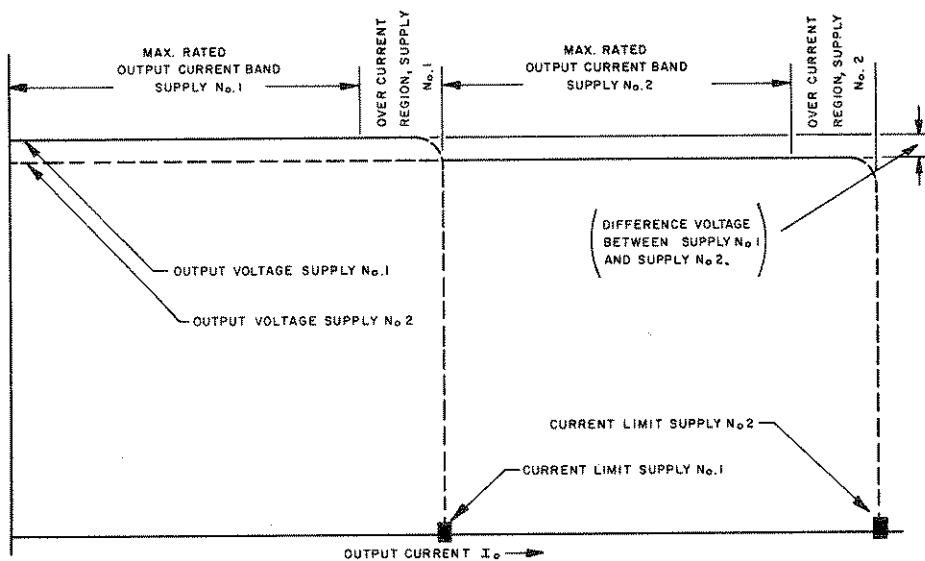
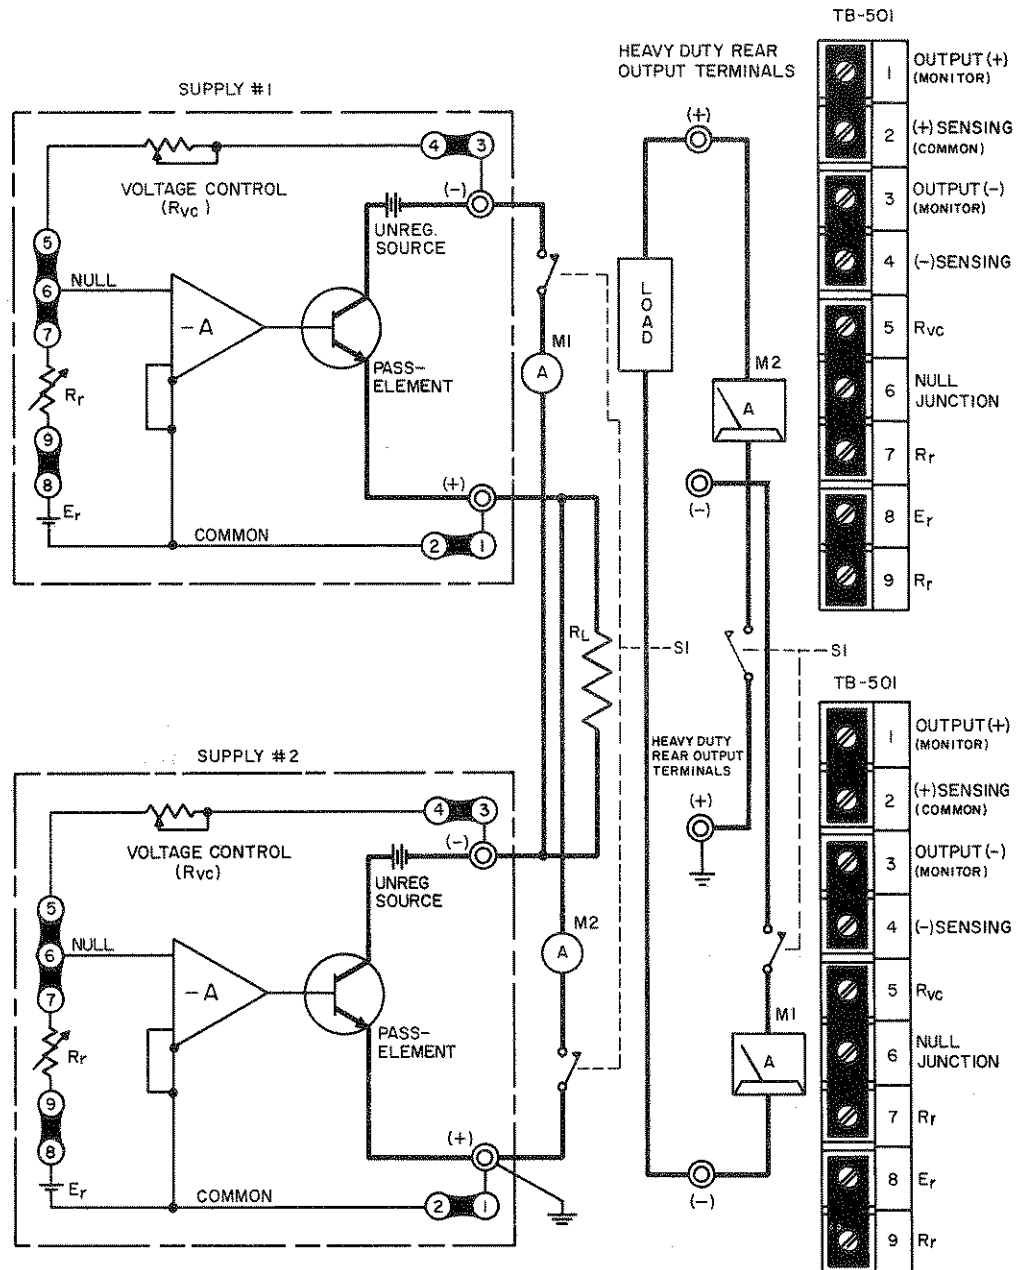
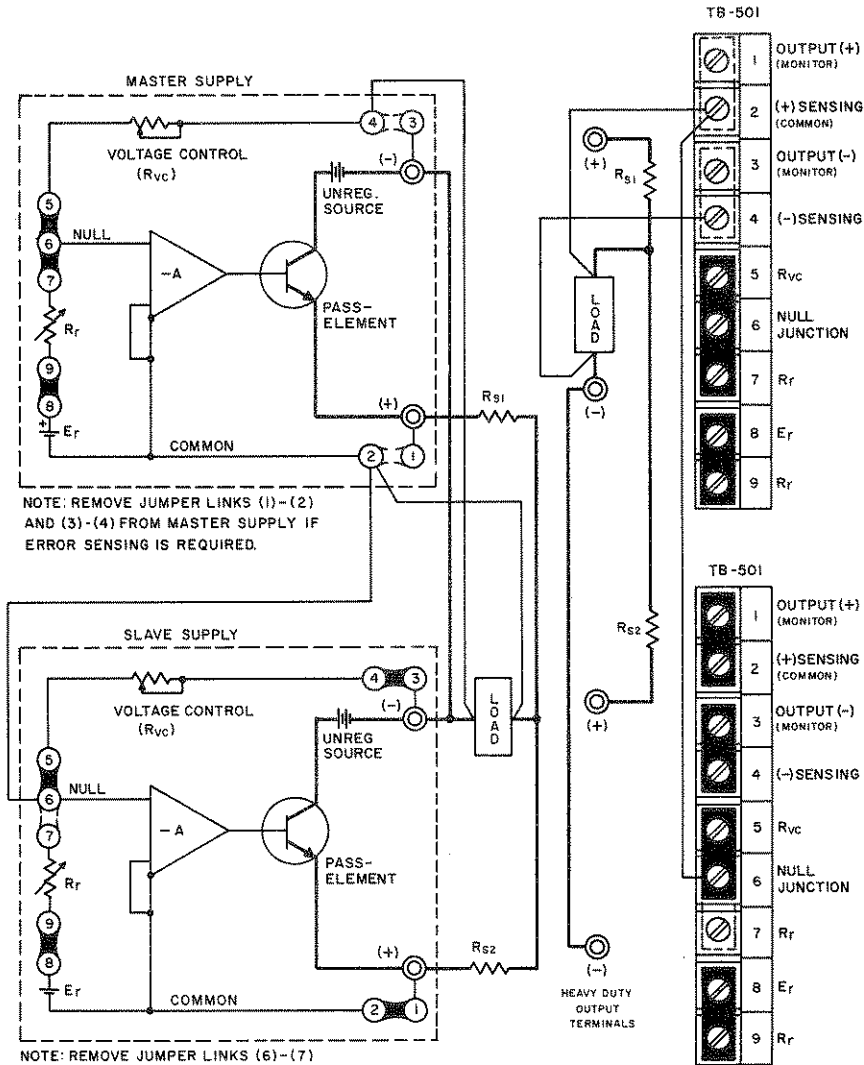

FIG. 3-12 PARALLEL OPERATION
FIG. 3-13 BASIC PARALLEL CONNECTION OF TWO KEPKO POWER SUPPLIES
FIG. 3-14 MASTER SLAVE PARALLEL CONNECTION OF KEPKO POWER SUPPLIES
3-42 Two or more Kepco Power Supplies may be operated in parallel for increased load current output. Two parallel connection methods are generally used, the "Basic Parallel" connection as shown in FIG. 3-13 and the "Slave-Master" connection as illustrated in FIG. 3-14. The difference between these two alternate methods lies in the manner in which the output is controlled. While in the "Basic" Parallel connection the output is set individually, in the "Master-Slave" connection control is exercised from the "Master" supply alone. In effect, output current sharing must be individually adjusted with the "Basic" method and is automatic with the "Master-Slave" connection, the latter requiring however additional resistors, which may not always be readily available.
3-43 BASIC PARALLEL OPERATION. Two (or more) Kepco power supplies are connected with their outputs in parallel as shown in FIG. 3-13. Each supply is set approximately to the desired output voltage, with its respective current limit control at its maximum clockwise position. After turn-on, one of the supplies (#1 in FIG. 3-13) will be at a slightly higher voltage than the other (supply #2). Consequently, supply #1 will deliver all the load current up to the setting of its Current Control. As the load is increased beyond this limit of supply #1, supply #2 takes over and delivers the additional current. The Current Limiting Adjustment of supply #1 can now be decreased, so that approximately equal current sharing is obtained. FIG. 3-12 shows in form of a diagram, how the two supplies operate in parallel, with their respective Current Controls set to the maximum clockwise position (105%  $I_0$  max.). It will be obvious from the diagram, that the areas of load regulation are within the output current bands of the individual supplies only. Therefore, load regulation cannot be measured from zero to twice the load current for example, but only within the individual load current bands. Error sensing as described in Par. 3-4, (from either supply) may be used if precise regulation at the load is required.
3-44 PROCEDURE FOR BASIC PARALLEL CONNECTION (Refer to FIG. 3-13)
- Connect units as shown in FIG. 3-13. Open SW-1 and connect to line.
3-45 MASTER-SLAVE PARALLEL OPERATION. Kepco power supplies may be paralleled for output control from a single "Master" unit as illustrated in FIG. 3-14. The sensing resistors ( $R_{S1}$ ,  $R_{S2}$ ) are of equal value and are selected such that the voltage drop across them is NEVER GREATER THAN 0.5 VOLTS at the maximum desired operating current. Selection of these resistors must be done with care. Please refer to paragraph 3-31 which should illustrate the process. High current power supplies when connected in parallel in the "Master-Slave" configuration require sometimes rather nonconventional values: for two 50 ampere supplies, the sensing resistors should be:  $R_{S1} = R_{S2} = 0.5V/50 = 0.01$  ohm, Wattage:  $0.5 \times 50 \times 10 = 250$  watt. Heavy duty ammeter shunt resistors, or special heavy duty units from the TEPRO "TMK" series (TEPRO ELECTRIC CORP., Rochester, New York) are ideally suited for sensing resistors. Load connections from all supplies (heavy lines in FIG. 3-14) should be of equal lengths, as heavy a wire gauge as practicable and as short as possible. Error sensing leads from the "Master" supply should be twisted and shielded as indicated.
- Connect supplies as shown in FIG. 3-14, keeping load and error sensing leads as short as possible. Use shielded wire for the connection from terminal (2) of the "Master" to terminal (6) of the "Slave" unit.